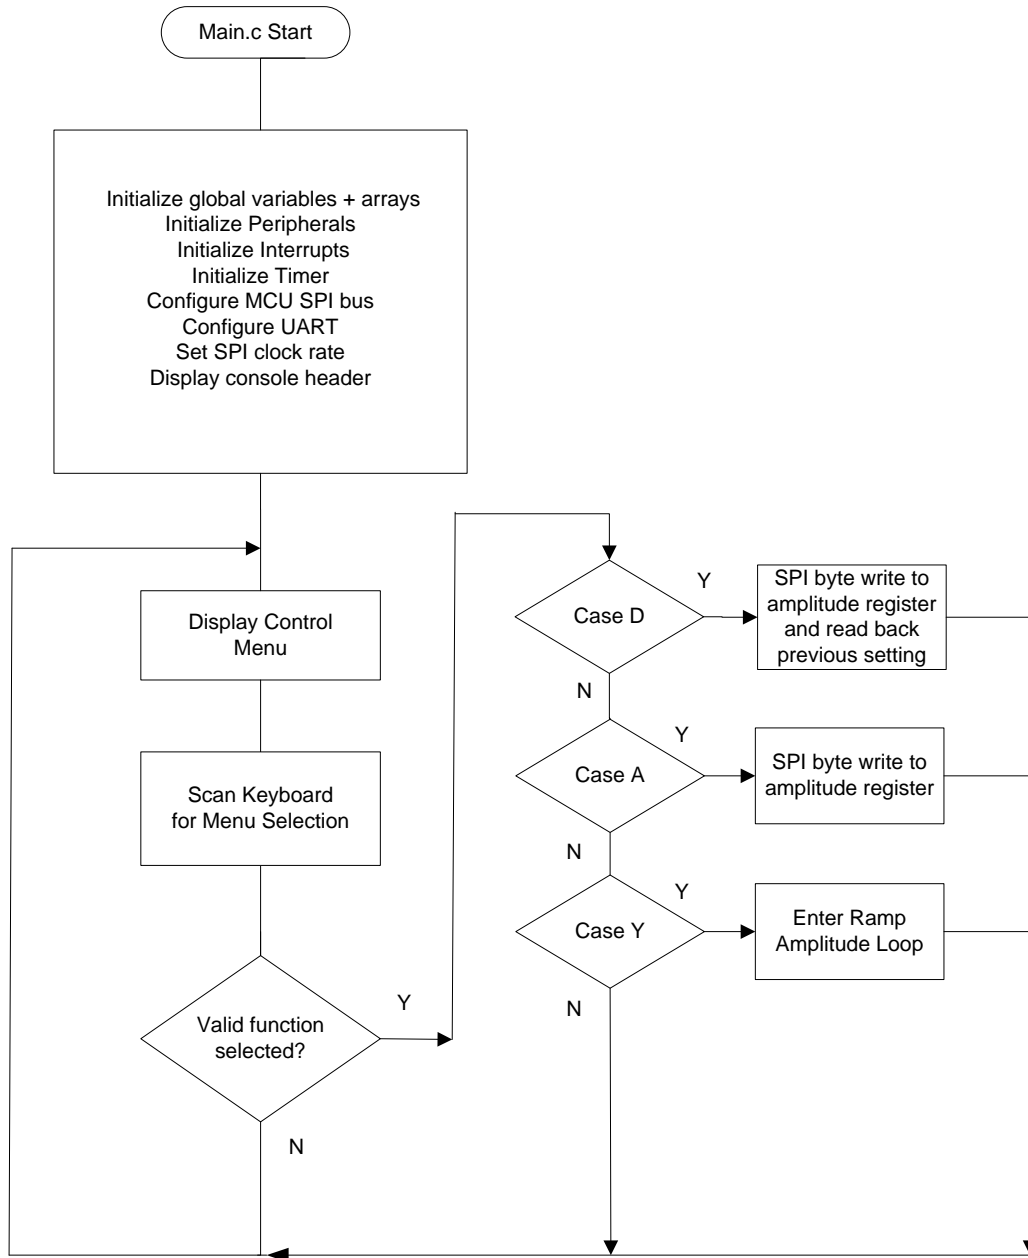

**Fig 3: Yellow is BUS A output, green is RXA output, Red is the ACTIVE trigger signal**
10. To test HI-1590 BusA and BusB receivers, RXENA and/or RXENB switches should be in the high position. Any 1553B compliant data is now output on the relevant RXA/nRXA and RXB/nRXB pins of J3. An example is shown in Fig 3 below: